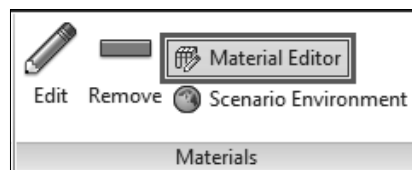

Figure-13. Material Editor button
- You can also open the **Material Editor** dialog box from **Materials** panel of **Setup** tab by clicking on **Material Editor** button; refer to Figure-13.